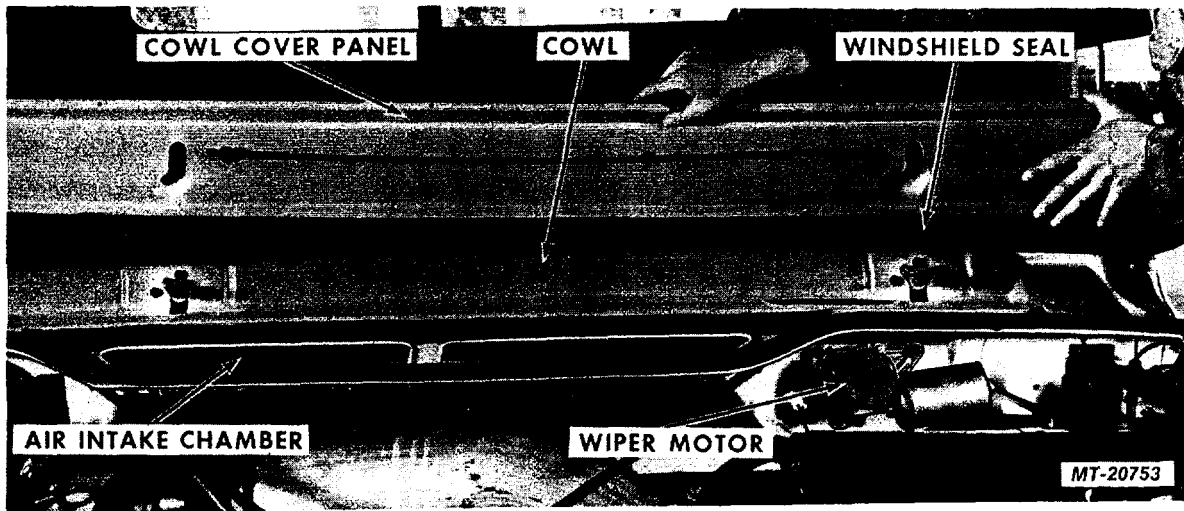

Fig. 3 Removing Cowl Cover Panel
3. Remove seven mounting screws and detach cowl cover panel from top of cowl (Fig. 3).